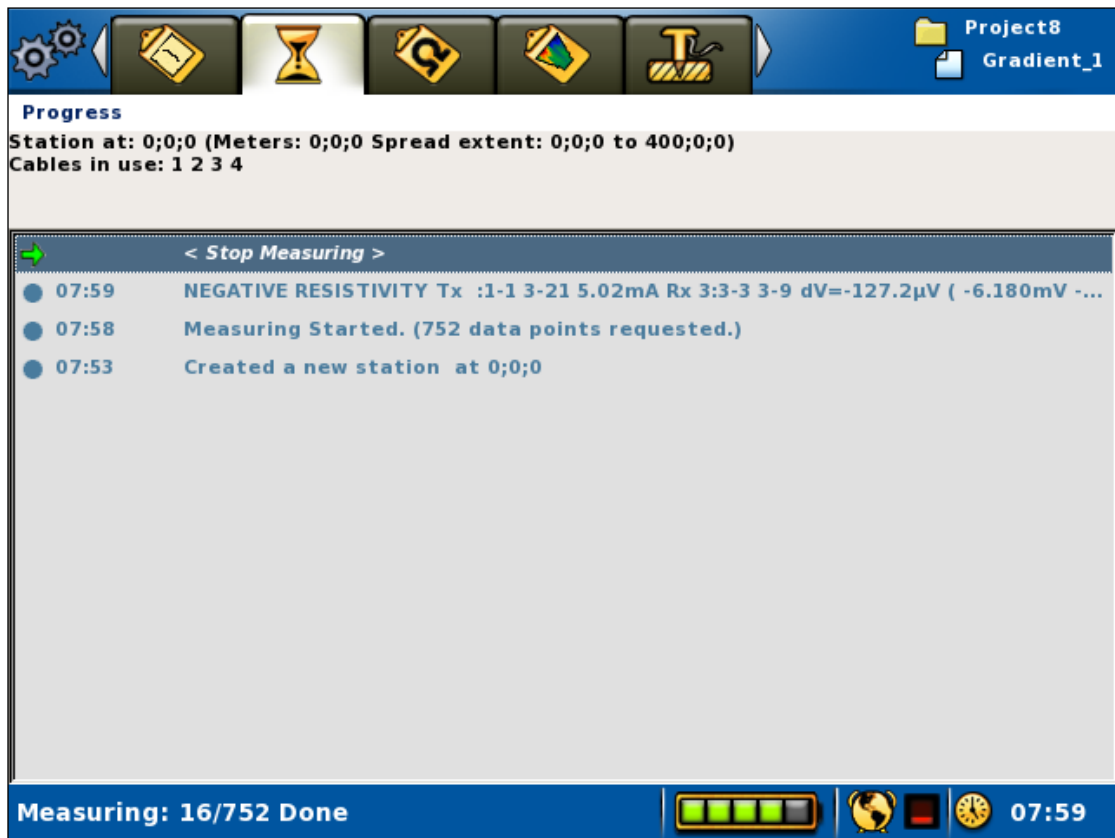

Figure 55 Progress view
The measuring progress is shown on the “*Measure/Progress*” View (Figure 55).
The top of the “*Measure/Progress*” View shows the coordinate location of the cable spread, and which of the cables that still remain to be used by the protocol on the present measurement station (Figure 52 and Figure 55). If all measurements for the cable have been completed it is removed from the list, so that only cables with remaining measurements on the current station are listed on that line.
– Move the highlight to the <Stop Measuring> row (Figure 55)